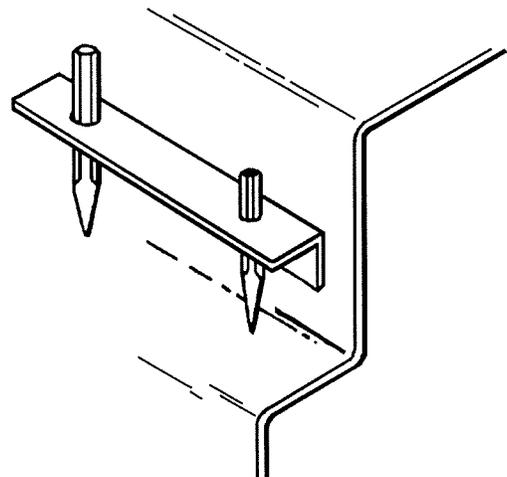

Figure 5-2. Ninety-Degree Support
- b. The ninety-degree support (Figure 5-2) is used as a support for punches, chisels, etc. It is attached to a container tier with self-tapping screws.